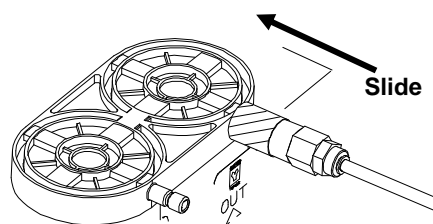

Figure 3
- (1) Remove quick coupler by pushing the black part of the coupler casing toward the cartridge while pulling the coupler off. (See Figure 3)
- (2) Remove the coupler from the IN side first, followed by the OUT side.